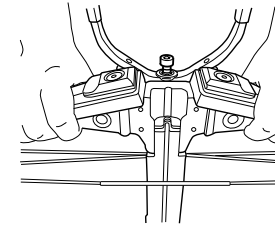

Figure 2
- 12 Slide the bow unit into place onto the stock assembly making sure the power cables are positioned in the cable slot. The bow string should be resting on the top surface of the flight deck (See Figure 2).